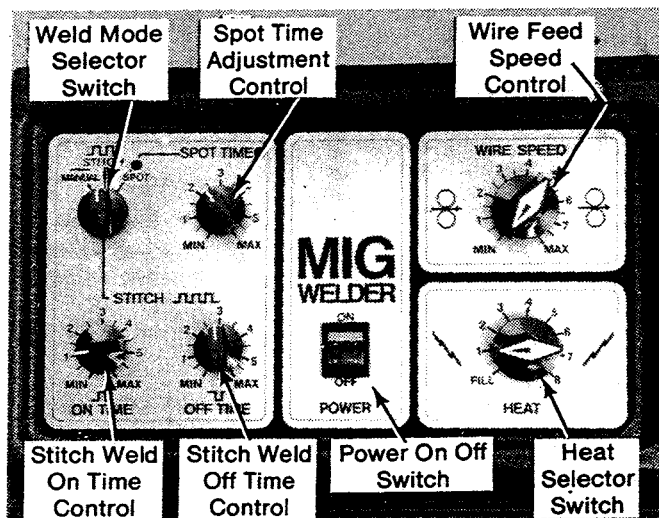

Figure 20
4. Move the weld selector switch to the spot weld position. (See Figure 20.)